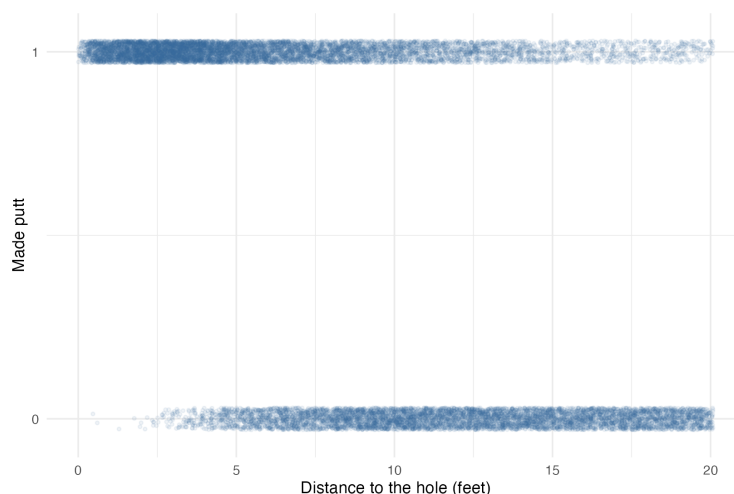

Figure 3.1: Scatter plot of the putt data
**Visualization:** The first thing we should do is plot the data, which we do in Figure 3.1. What do you notice?